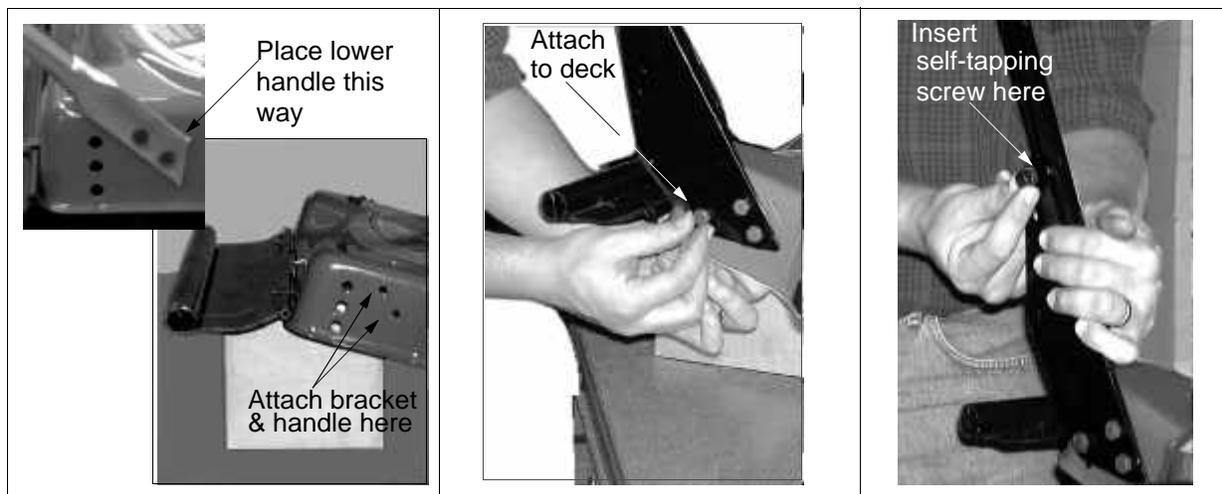
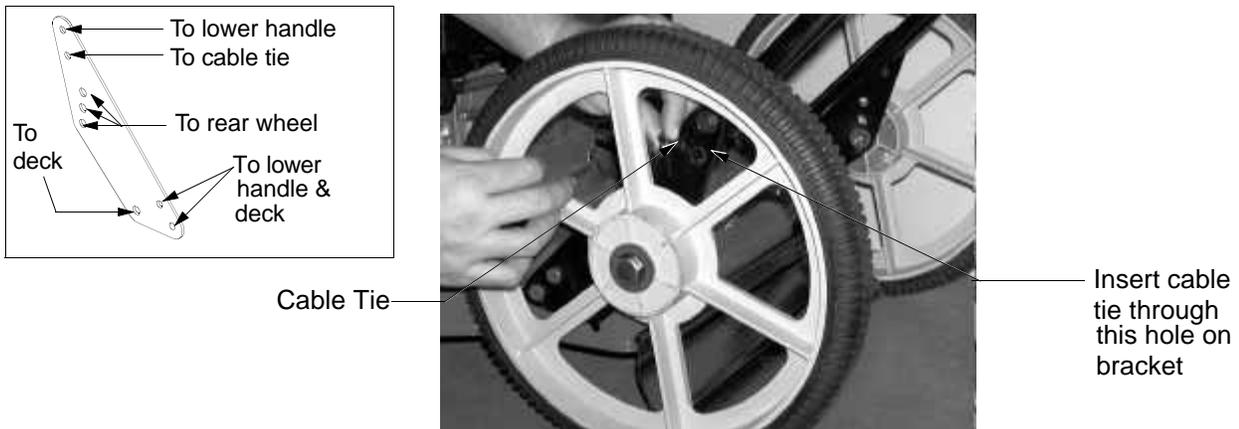

FIGURE 3
FIGURE 7
- Place the lower handle (pointed side down as shown in Figure 3) over the deck on one side and align the holes on the deck with those on the handle. See Figure 3.
- Insert two hex bolts through the handle bracket, and secure with two flange lock nuts on inside of the deck. See Figure 3.
- Insert third hex bolt through the remaining hole at lower end of handle bracket and the middle hole on the deck. See Figure 7 inset for details. Secure with flat washer between bracket and deck, and a bell washer and hex nut from inside the deck. See Figure 3. *Keep this finger-tight now.*
- Secure the upper end of the handle bracket to the lower handle with a self-tapping screw included in the hardware pack. See Figure 3.
- Secure the cable to the lower left handle near the base of the unit with a cable tie. Insert the cable tie through the second hole on the left handle bracket and wrap around the lower handle making sure to keep the cable inside this ring. Pull the cable tie and trim off extra. See Figure 7.